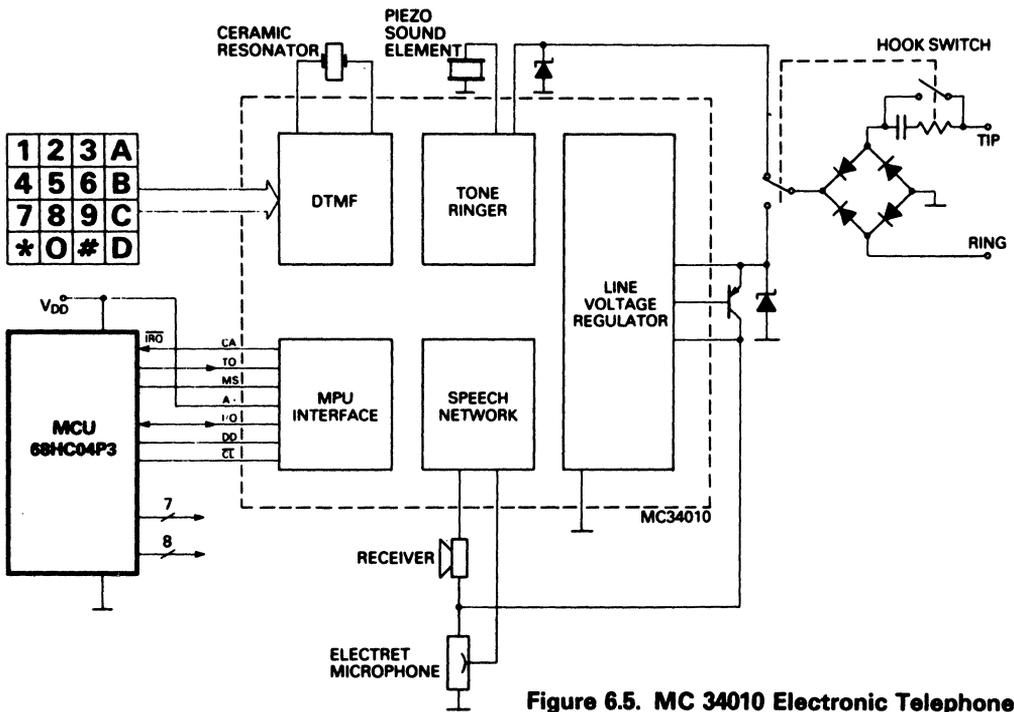

Figure 6.5. MC 34010 Electronic Telephone
6.2.5 Electronic Telephones (Figs 6.5, 6.6)
In the example shown in Figure 6-5, the MC 68HC04P3 interfaces with the MC 34010 Electronic Telephone Chip (ETC) via six pins. Keyboard data is input to the MC 34010 DTMF Dialler circuit and output to the MCU serially on I/O, clocked by CL. DD determines the data direction. Hence numbers can be stored in the MCU memory to be subsequently used for automatic dialling, whereby the numbers are trans-